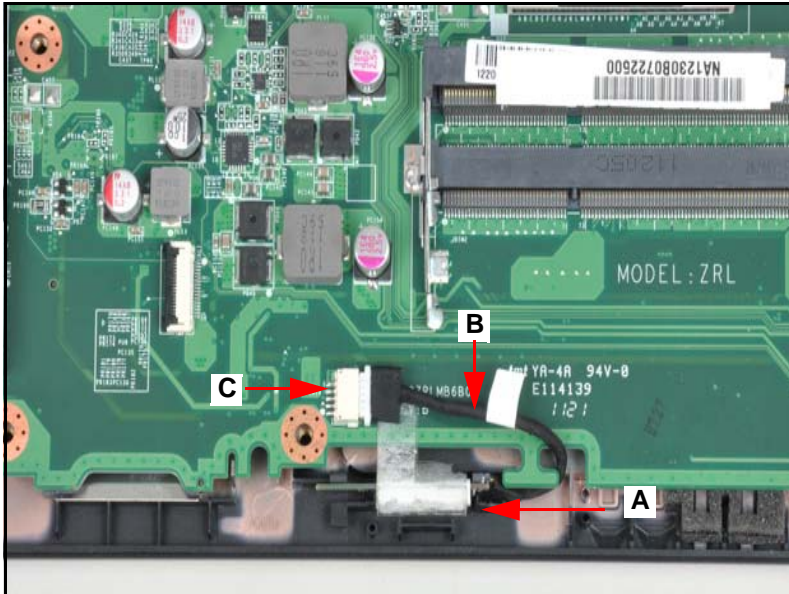

Figure 3-22. Bluetooth Module
1. Find the Bluetooth Module on the lower case (A) (Figure 3-22).
2. Disconnect the Bluetooth cable (B) from the mainboard connector (C).
2. Connect the Bluetooth cable (B) to the mainboard connector (C) (Figure 3-22).